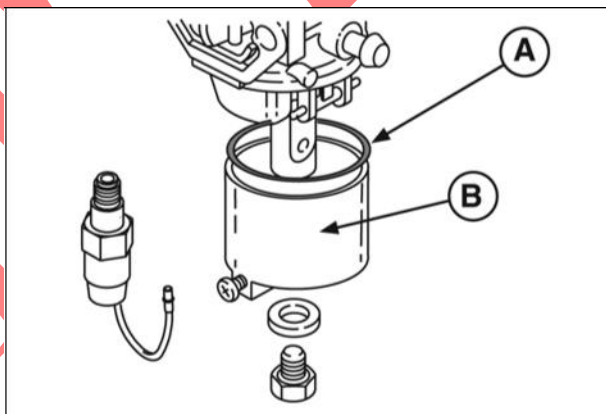

Figure 19
3. Install gasket (A, Figure 19) and float bowl (B).